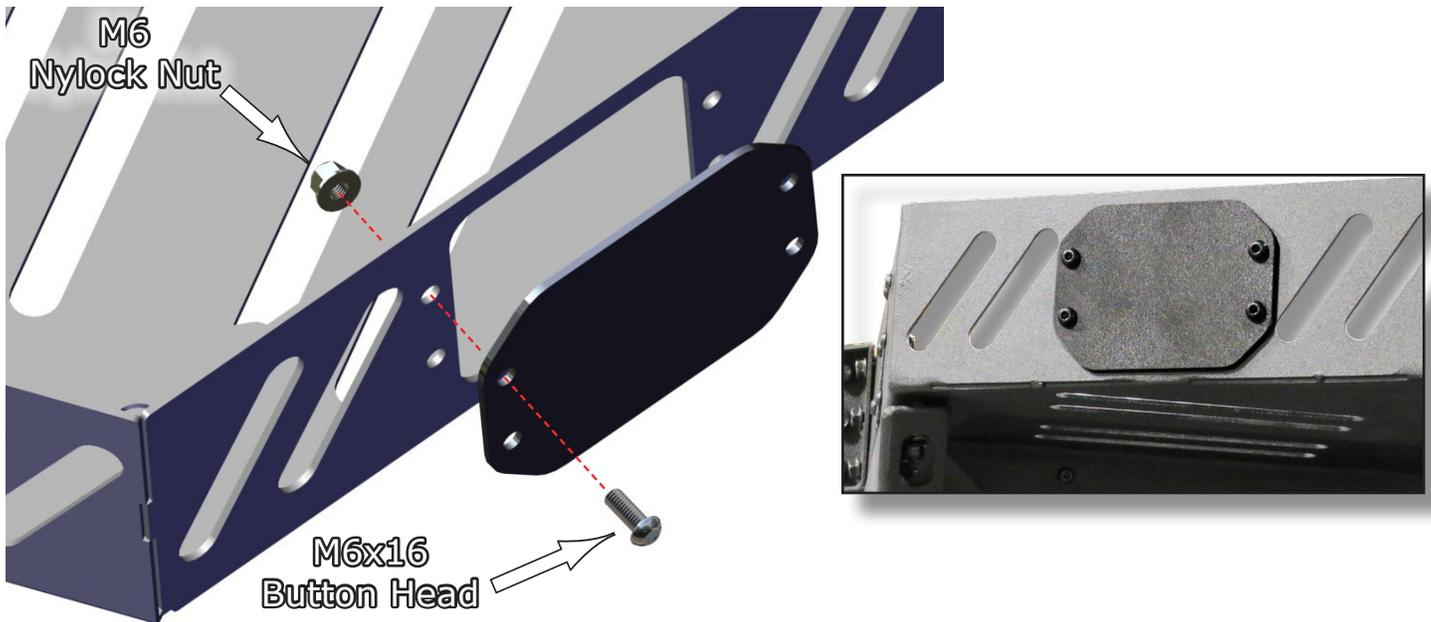

Fig.19
19. You kit comes with two (2) **Cube Light Covers** for you to use if you do not have or intend on using light in these locations. If using the covers, install them using the **M6x16 Button Head** bolts and **M6 Nylock Nuts** provided in your kit. Install as shown in **Fig.19**.